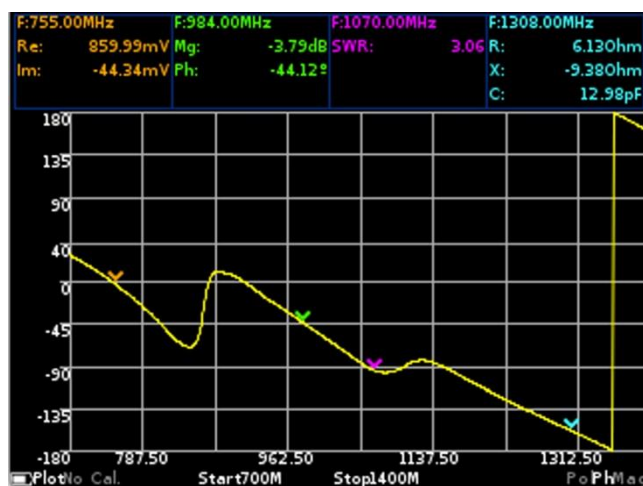

Figure 10.3 – Phase plot
10.3.1. The phase plot shows the dependence of the phase of the reflection coefficient (RC) on the frequency, relative to angles from -180 to 180 degrees (Figure 10.3). On the screen of the device is designated as **Ph**. Enabling or disabling the display of this plot on the screen is made as indicated in par. 9.3.
*In our example in figure 10.3 GSM antenna with operating frequency of 900 MHz is tested. Above the plot, the measurement values of the four included markers are displayed in the specified units.*